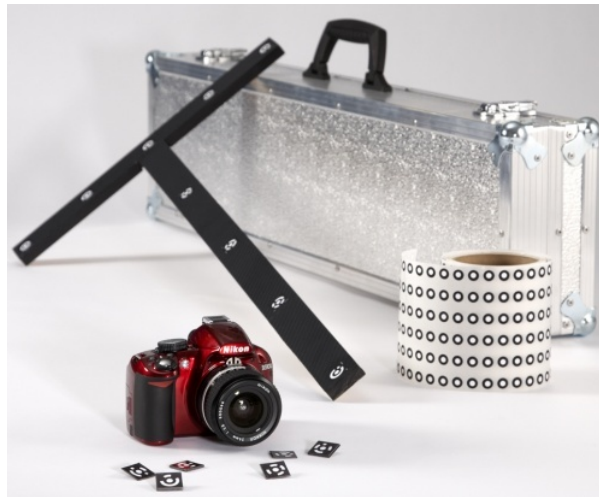

Figure 38: *Scan Reference* kit
2. Place the cross (Figure 38) on the scene, ensuring that it rests firmly, and it is seen from most points of view. Also double check that all targets on the cross are clearly visible.
This synergy of technologies is possible thanks to Artec 3D-scanner and photogrammetry solutions. Several third-party photogrammetry offerings are available on the market. *Scan Reference* photogrammetry is one example. The *Scan Reference* kit includes hardware and software (see Figure 38), a digital camera, a reference-scale cross, non-coded sticky *targets* (which Artec Studio uses to match the captured 3D data to the photogrammetric measurements), and reusable magnetic coded targets (required to automatically carry out measurements in the *Scan Reference* software).